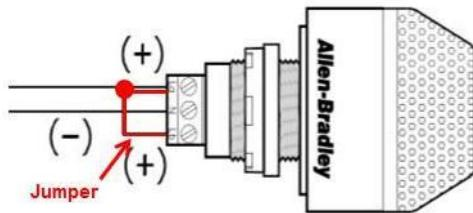

Figure 9-14 RSL jumper wiring
- C. wired for solid light operation, by placing a jumper between the "La" and "Lb" terminals on the light per Figure 9-14.